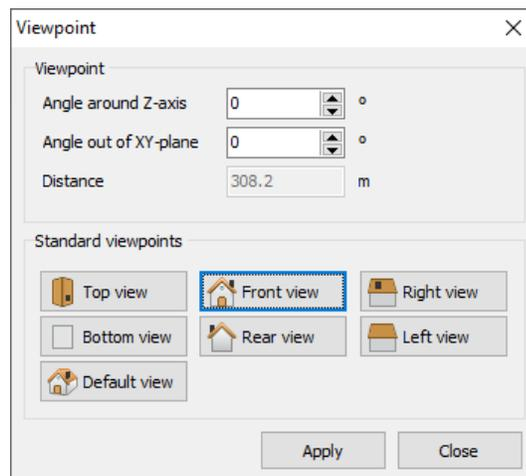

Figure 97: Viewpoint window
5. In the **Viewpoint** window select the **Front view** option as shown in Figure 97 (on page 122):